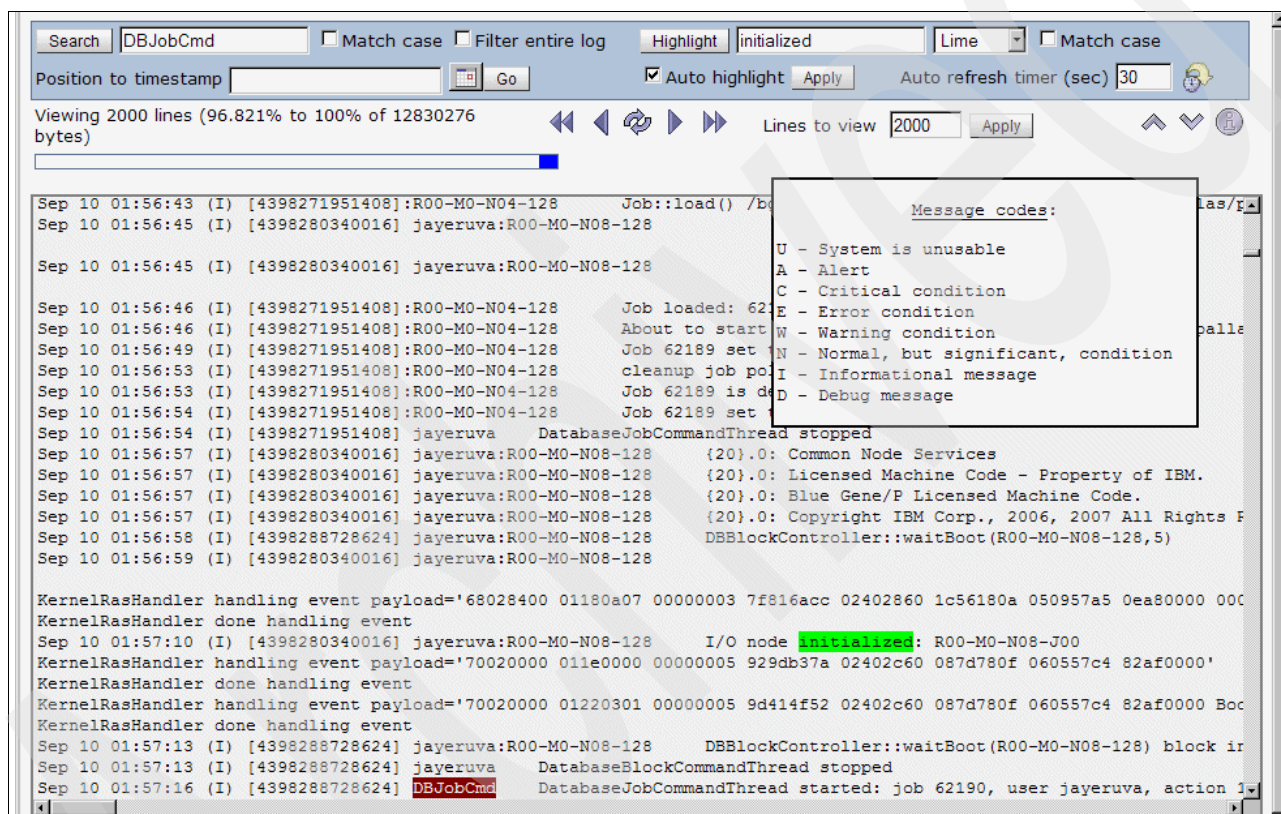

Figure 2-41 Log viewer features
Figure 2-41 shows a number of log viewer features. These features assist you in the following areas:
- **Highlighting:** Two independent highlighting schemes are available. In Figure 2-41, the auto highlight feature displays lines in various colors (for example, error messages are displayed in red), and the manual highlight feature is highlighting the text *job* in line.
- **Hints:** Hover your mouse over any of the log file viewer icons, and the viewer provides a *hint* that describes that icon's function. In addition, if you hover your mouse over the information (*i*) icon, the log viewer displays the message code descriptions as shown in Figure 2-41.